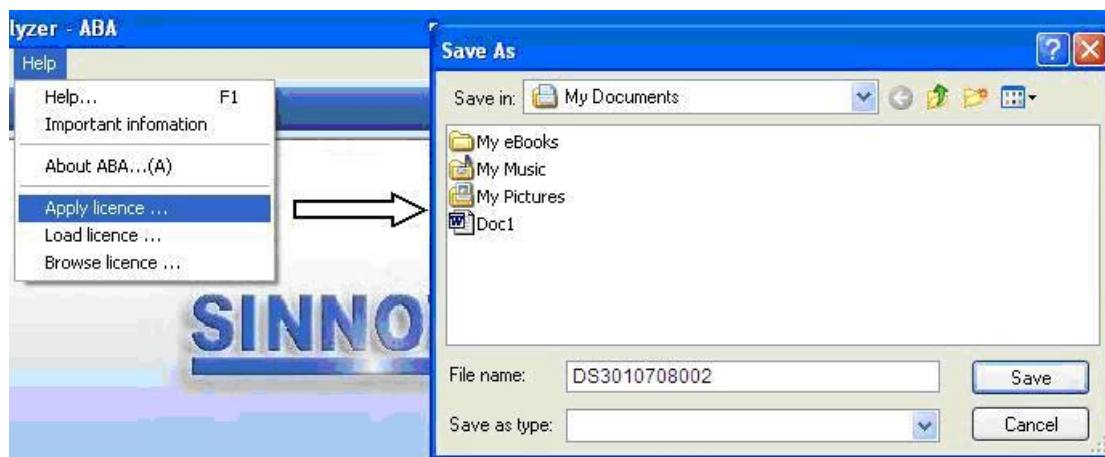

Figure 5-84
2. Run authorization in the help column and generate an authorization documents, such as DS1610708002, named followed the machine number as much as possible, as shown in Figure 5-84: